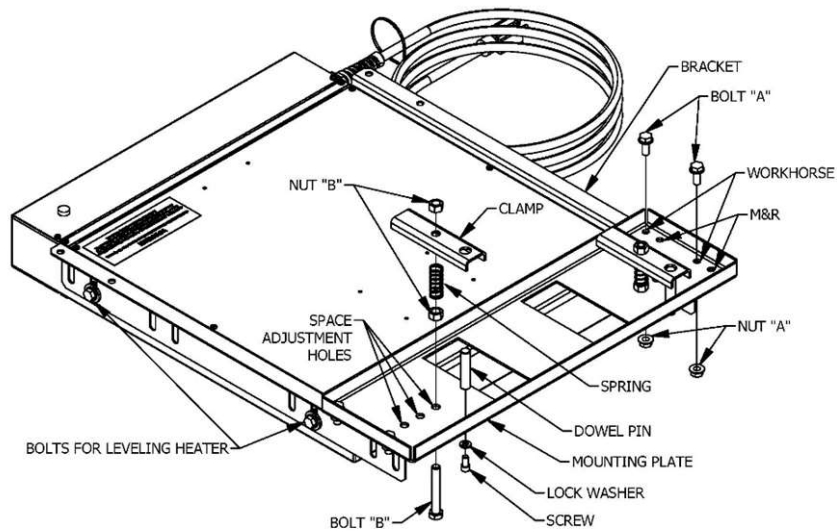
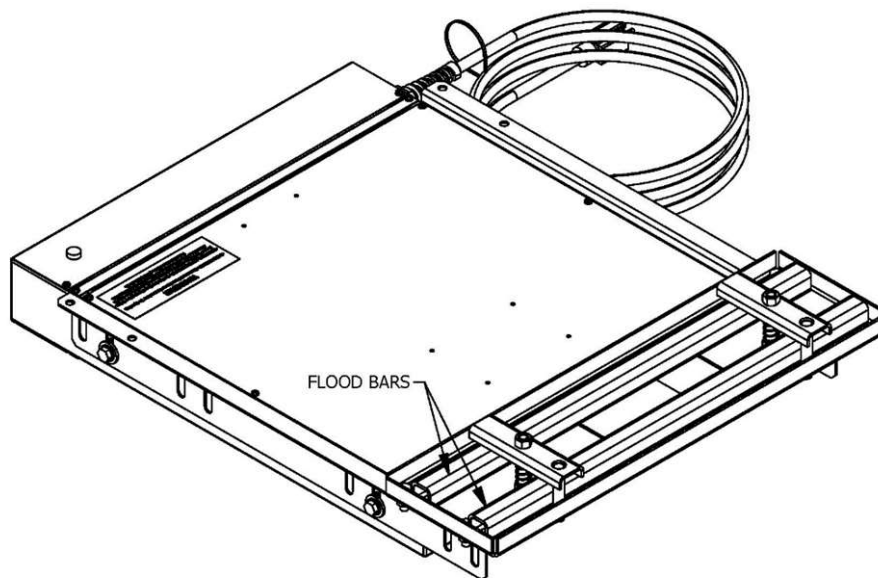

Fig. 1
Fig. 2
1. Place bolts "A" and nuts "A" in the correct Mounting Plate hole positions and fasten. (This depends on what brand of press.) (See Fig. 1)
5. Rotate clamps in Fig. 1 90 degrees to place flood bars underneath clamps shown in Fig. 2.
6. When flood bars are in position, rotate clamps back to the position shown in Fig. 1.